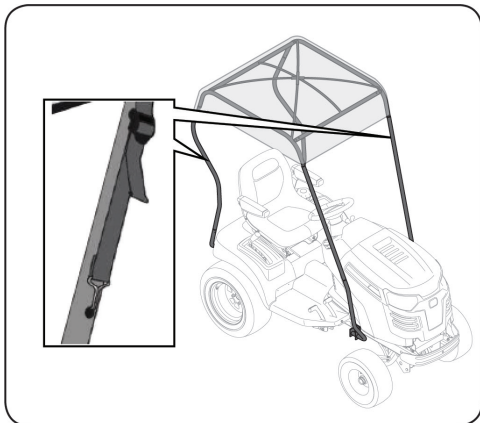

Figure 3-8
- There are four tie-down straps on the outside corners of the sun shade; two in the front and two in the back. Secure the front and back of the sun shade with these straps as shown in Figure 3-8.